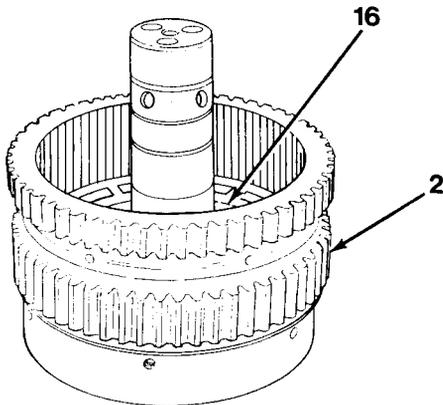

Figure 11-4
19. Install clutch piston (16) in clutch shaft assembly (2, Figure 11-4).